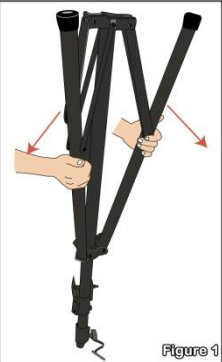
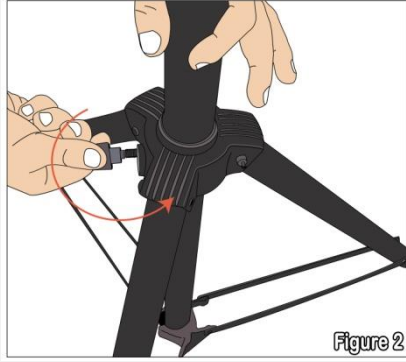

Figure 1
Figure 2
**Step 1** – Take the stand and turn it upside down to have more leverage in spreading the legs. Spread the legs approximately 36" (91.5cm) apart. (See **Figure 1**) Turn the knob tight near the base to secure the legs. (See **Figure 2**)